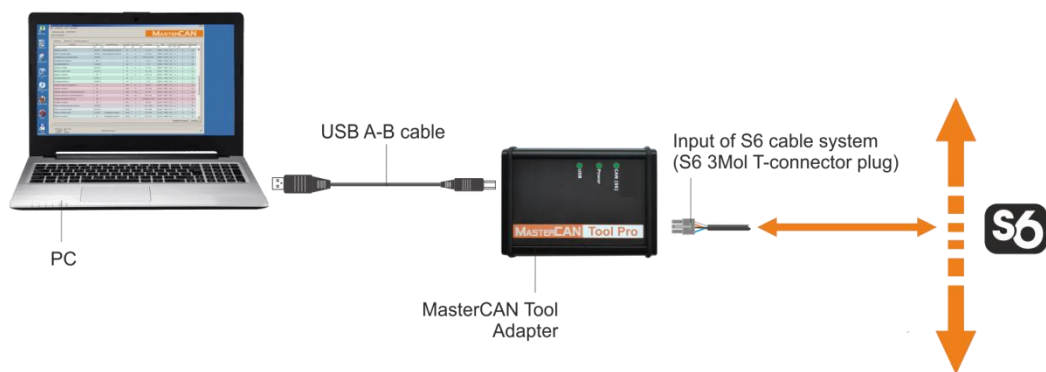

Figure 10 — MasterCAN Tool connection diagram using S6 Technology
The connection of MasterCAN Tool to Units using S6 Technology is carried out according to the connection diagram presented in figure 10.
- 1) Connect **S6** connector of the Adapter to any vacant input of S6 cable system (see figure 10).